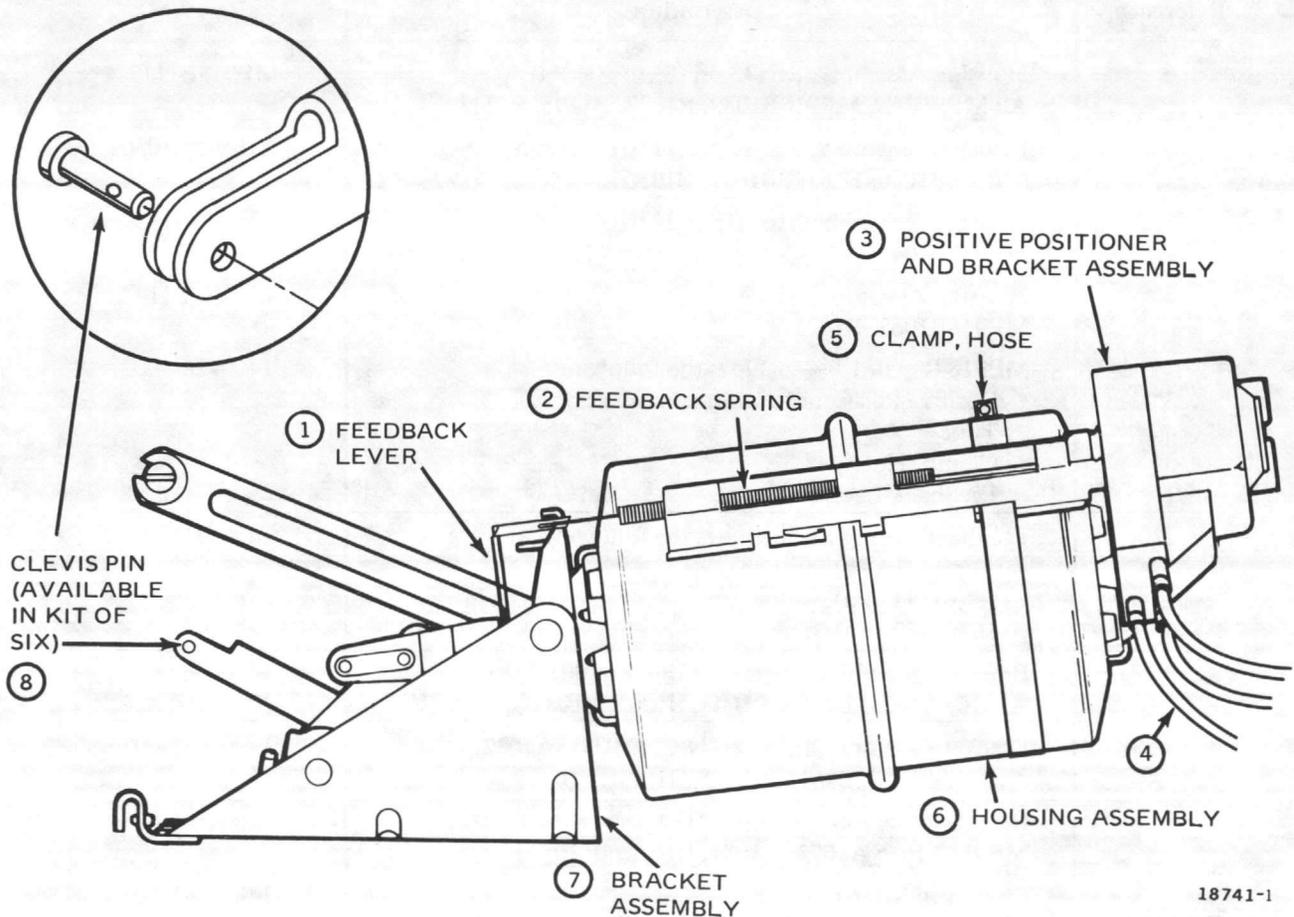

Fig. 6. MP918A Showing Repair Parts.
1. Cut air lines to main, pilot, and branch (Fig. 6). Plug or cap main during replacement procedure.
Refer to Figure 6 in REPAIR section and Table III for available repair parts.